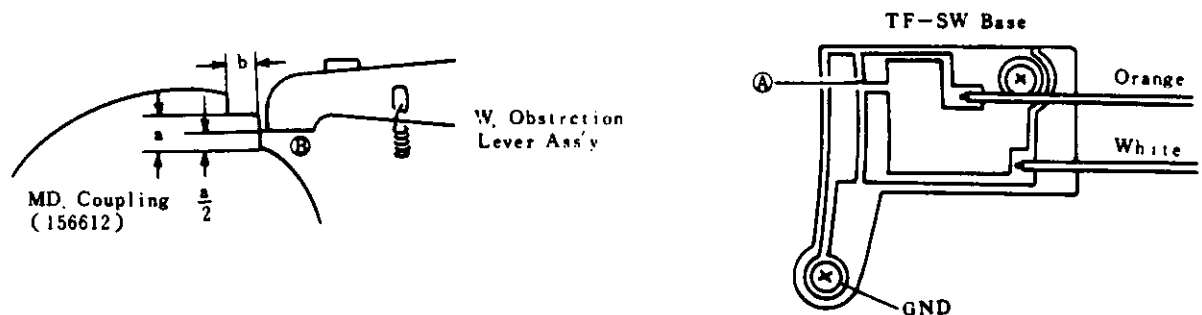

Fig 37
(5) Adjustment of TF-Switch.
- a) After winding, return the Winding Lever slowly and check that the point of the Winding Obstruction Lever Ass'y is located at position ② of the MD. Coupling when the contact part of the Winding Obstruction Lever Ass'y contact is located at position ① as shown in (Fig 37).
- b) The position ① is the TF-SW Base part of the pattern, so it is available switch ON or switch OFF.
- c) Adjust the position of TF-SW Base so that you may be able to release the Shutter surely when the point of the Winding Obstruction Lever Ass'y is located at position ②